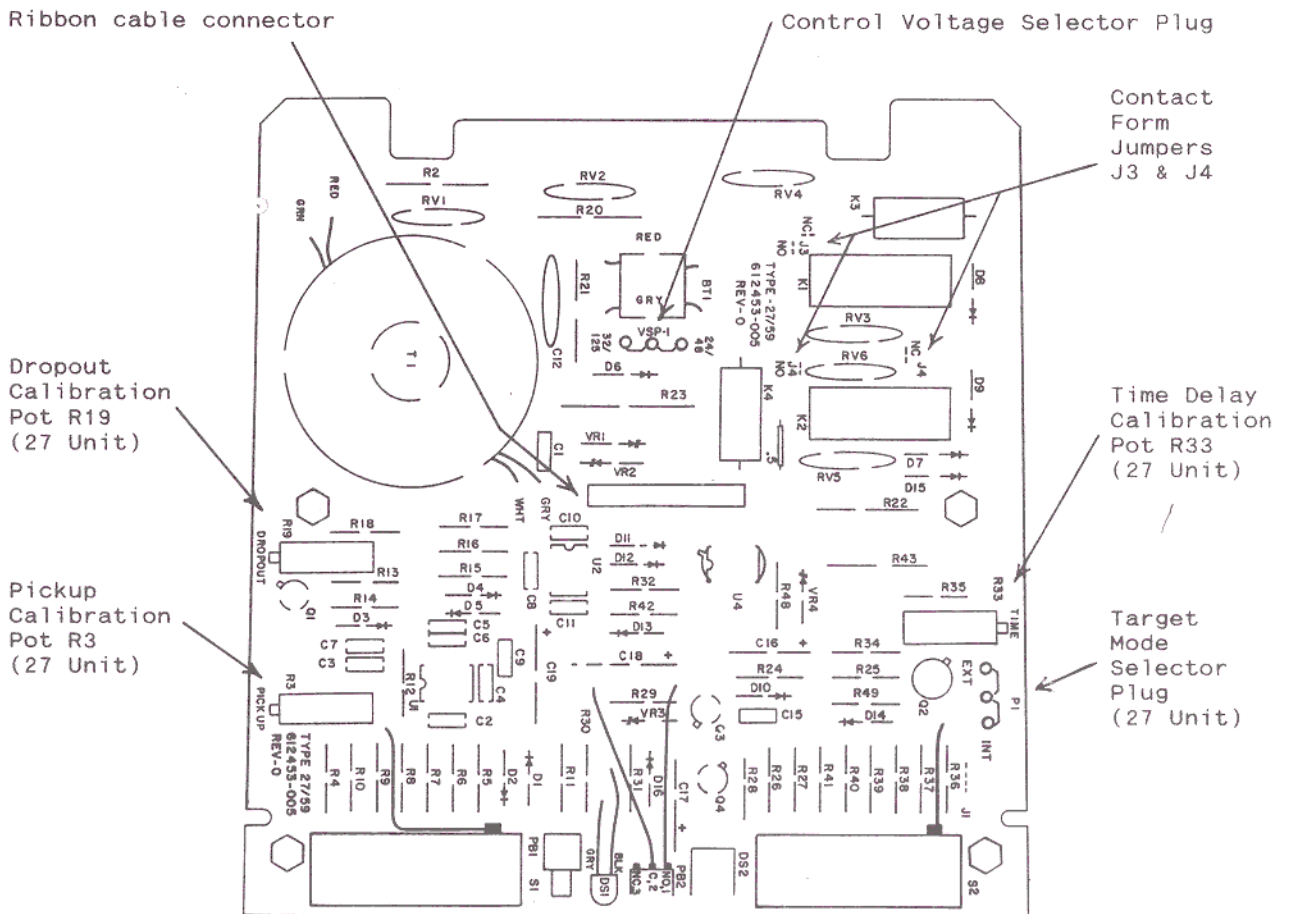

Figure 5: Typical Circuit Board Layout - Type 27/59
3. Contacts 5-6 and 12-13 on the Type 27/59 can be converted from normally-open to normally-closed by changing internal jumpers. Catalog series 410Dxxx0 provides movable links - see circuit board layout, Figure 5 for details. See pg 16 for earlier models.
Notes for Figure 5, page 10, Type 27/59:
Calibration can be trimmed to the final settings required for the application at this time. Settings may be varied from the fixed taps by using the internal calibration potentiometers. The identification of these potentiometers is given below, and their locations can be found on the circuit board layouts shown in Figures 5, 6 and 7.